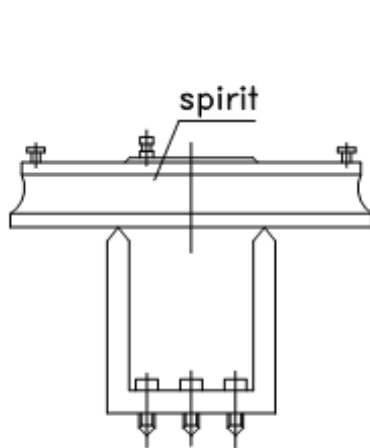

Fig.9
- 3.1.1 The wheel balancer must be leveled first (Fig.9), and check it by a spirit.